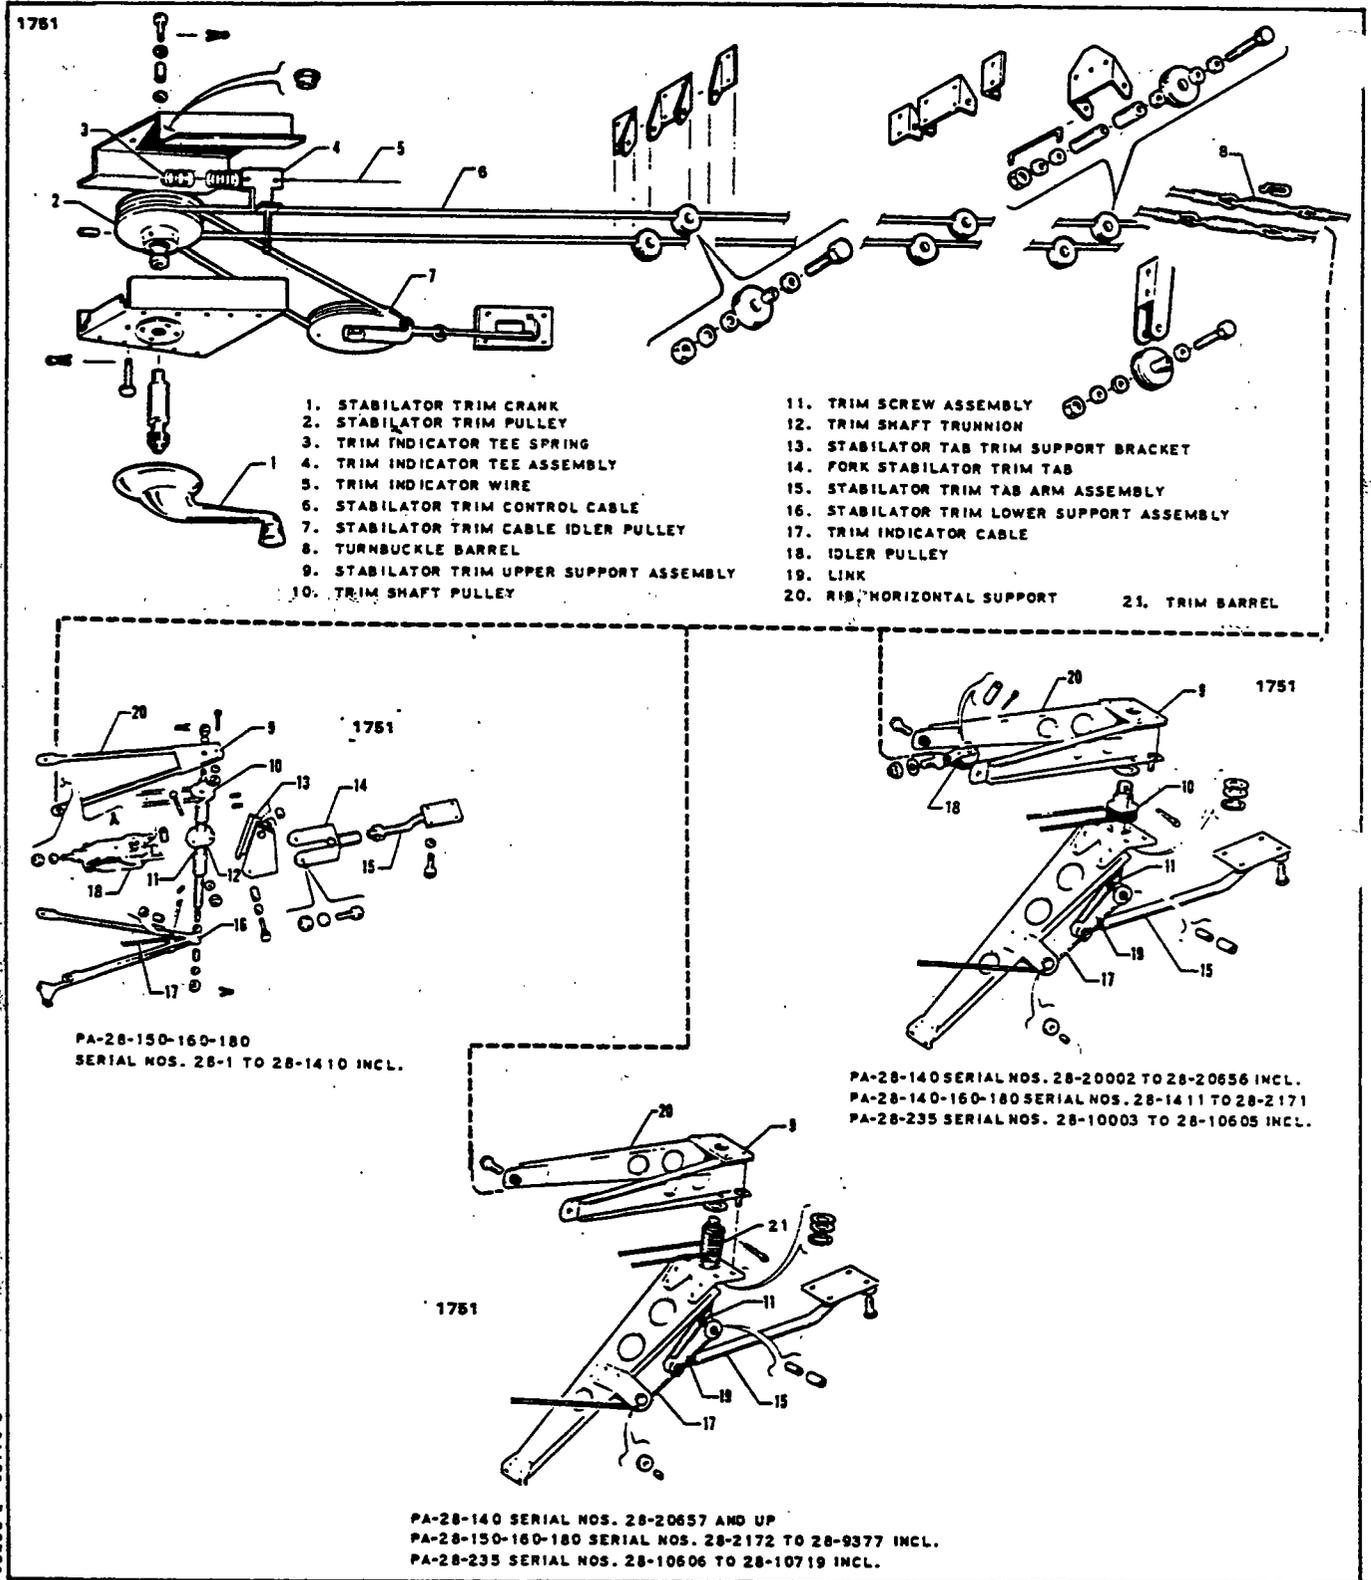

Figure 5-9. Stabilator Trim Control (Overhead Control)
(Refer to Figure 5-9.)
5-22. INSTALLATION OF STABILATOR TRIM CONTROLS. (AFT.) (Refer to Figure 5-9.)
- (b) With the forward portion installed, route the long length (the long length should be the left end of the cable) aft, counterclockwise around to the top groove of the trim pulley (10), around the idler pulley (18), back around the bottom groove of the trim pulley and forward to the inside of the fuselage.
3. The trim indicator cable may be installed by attaching one end to the trim screw trunnion. (Refer to Figure 5-9 for correct location.) Loop the cable around the pulley below the trim screw. Install the cotter pin cable guard at the pulley. Attach other end of the cable to the indicator wire, and at the same time make adjustments given in paragraph 5-23.
2. Attach the horizontal (20) and diagonal support ribs to the aft bulkhead of the fuselage with bolts, washers and nuts. Start nuts only a few threads so as to allow ribs to hang loose. Do not connect the ribs at this time.
4. Wrap the trim cable around the barrel (21) and idler pulley (18). To do this, hold the barrel next to the aft end of the support braces and wrap, bringing the end of the long length (The long length should be the left end of the cable.) aft to the left side of the trim barrel, around the bottom groove of the idler pulley, then continuing to wrap in this direction until all grooves are filled.
5. Install the trim barrel (21) in the bushing between the horizontal and diagonal ribs, and then attach the ribs, securing with bolts, washers and nuts. Tighten bolts where the ribs attach to the aft bulkhead.
11. The trim indicator cable may be installed by attaching one end to the lower end of the trim screw (Refer to Figure 5-9 for correct location.) and looping the cable around the pulley below the trim screw. Install the cotter pin cable guard at the pulley. Attach other end of the cable to the indicator wire, and at the same time make adjustments given in paragraph 5-23.